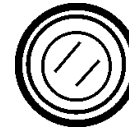

Figure 14. Start Pushbutton Switch
5. Press the **Generators start switch** (Figure 14) and listen for the engine to start. If the battery is not installed proceed to step 6.